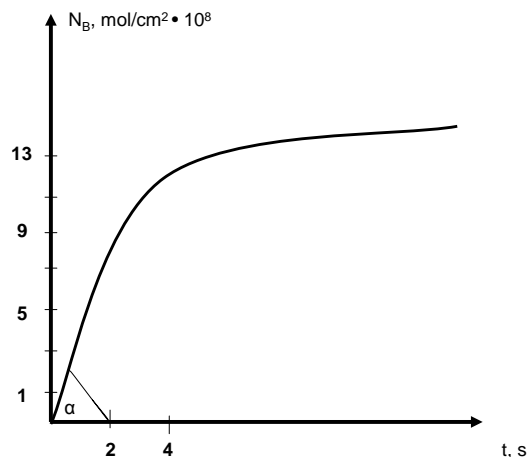

Figure 1a. The amount of the product  $N_B$  as a function of time
- The dependence of the amount of B produced at  $1 \text{ cm}^2$  of a catalytic surface upon time is given in Fig. 1a. There are  $10^{15}$  catalytic sites in  $1 \text{ cm}^2$  of the surface. Estimate *TOF*.